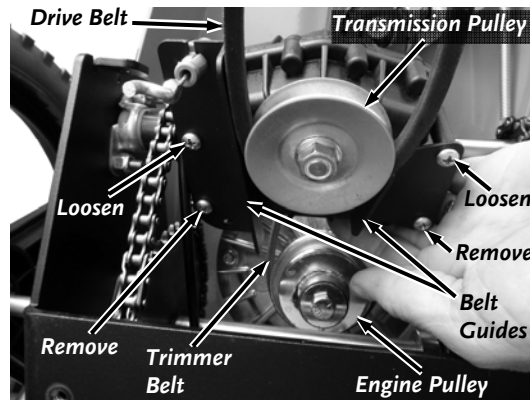

Figure 37
8. Continue to rotate the Transmission to gain access to the Belt retainers and Screws on the bottom of the Transmission (Figure 37).